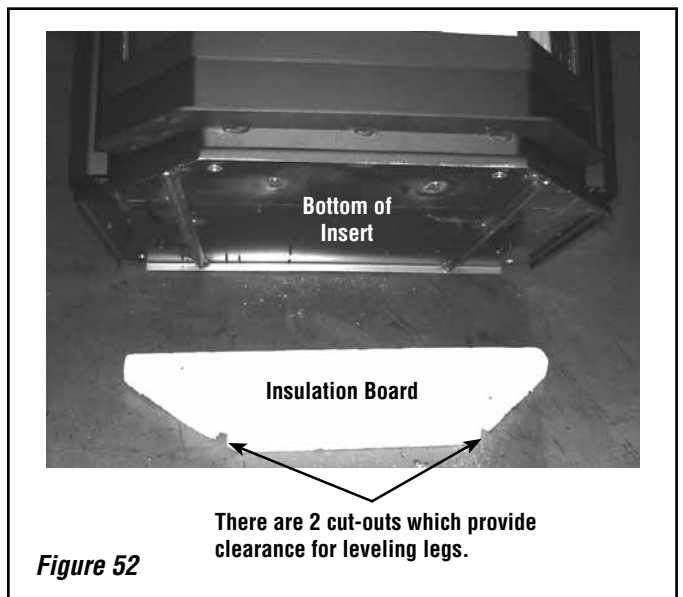

Figure 52
3. Set the insert on the insulation board. Now that the insert is level, place your insulation board in place where the insert will be installed and set the PI40GL insert over the insulation board so the two front leveling legs line up with the two cut-outs in the front of the insulation board (see Figure 52). Your PI40GL heat kit is now installed.